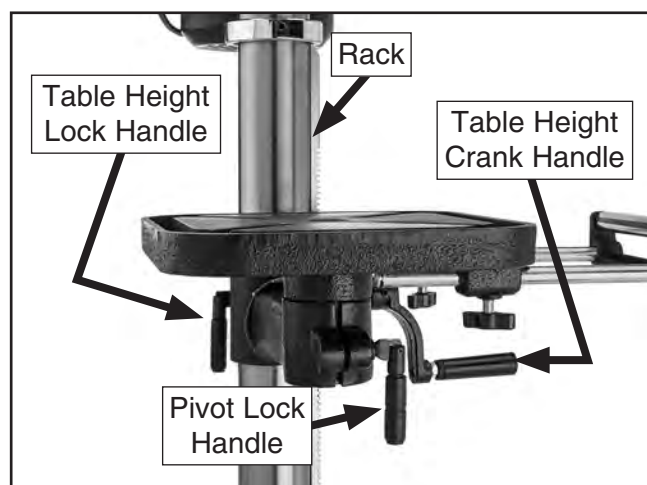

Figure 30. Table adjustment controls.
1. Loosen pivot lock handle shown in **Figure 30**.
1. Loosen table height lock handle shown in **Figure 30**.
2. Adjust table height by rotating table height crank handle (see **Figure 30**), then re-tighten table height lock handle.
1. Loosen table height lock handle (see **Figure 30**).
2. Pivot table to desired location, making sure guide rack moves around column with table, as shown in **Figure 30**.